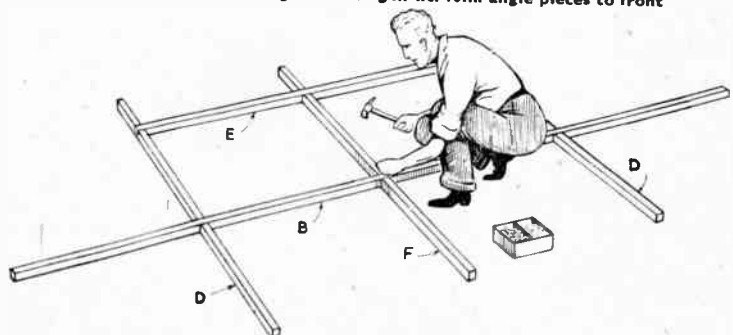

Fig. 8—The sub-assembly of the side section fixing
Prepare both side sections for assembling, then continue as follows. First nail the two 5ft. 8ins. (C) to the two 14ft. pieces to form a rectangular frame. Check this for being square against a sheet of asbestos. Now assemble the two pieces (D) and the piece (F) to the piece (E) and secure each half joint with one 2½ in. nail, see Fig. 8. Place the 13ft. 8in. piece (B) in position and secure in a similar manner. Take up this sub-assembly and place it in the rectangular frame.